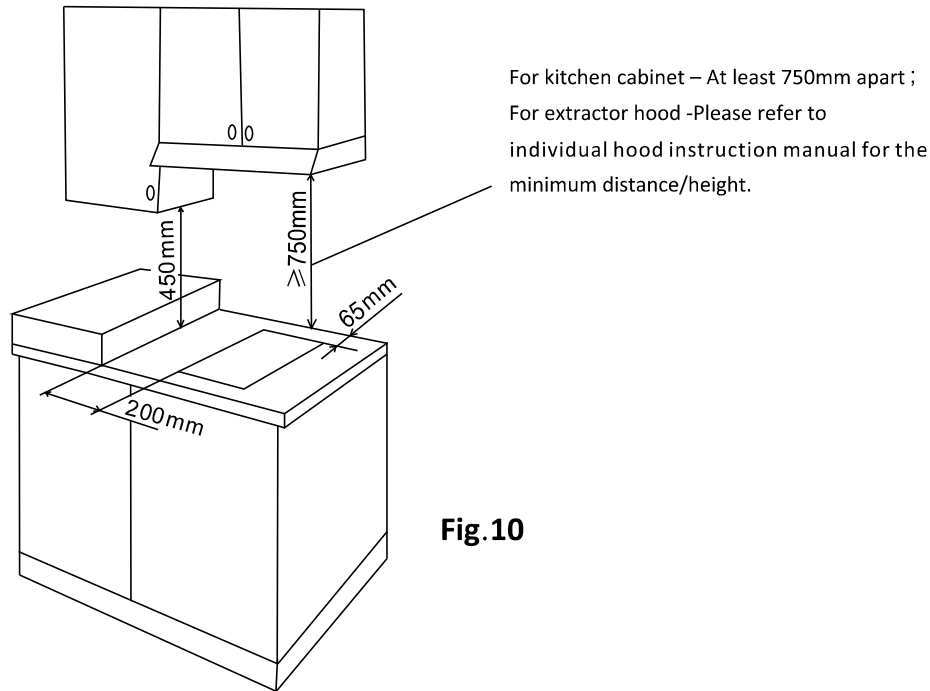

Fig.10
- There must be a distance of at least 750 mm between the hob and any wall of the cupboard for extractor hood positioned immediately above (Fig.10 in page 11).